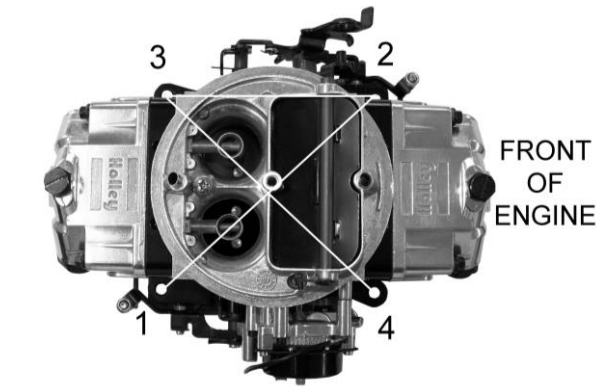

Figure 5
3. Place the carburetor on top of the flange gasket on the manifold. Install the hold down nuts and snug down progressively in a “crisscross” pattern (60-80 in./lbs.), as shown in **Figure 5**.